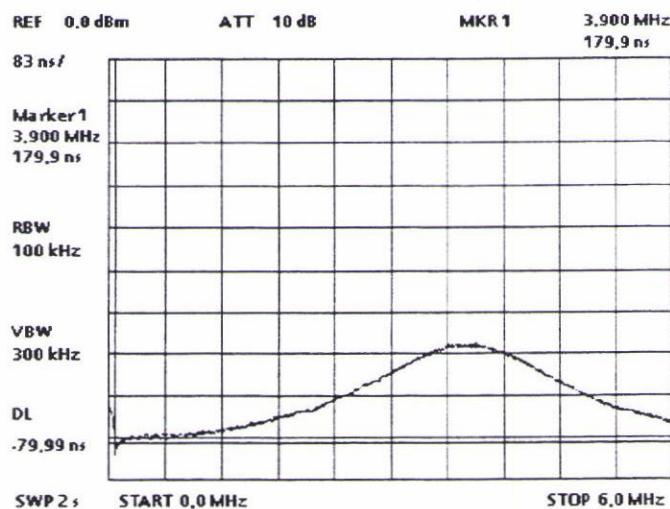

Fig. 7-8 Group delay of allpass filter 4
- Adjust the group delay with R411 so that a delay difference of approx. 178 ns is obtained between 0.5 and 3.9 MHz (see Fig. 7-8).